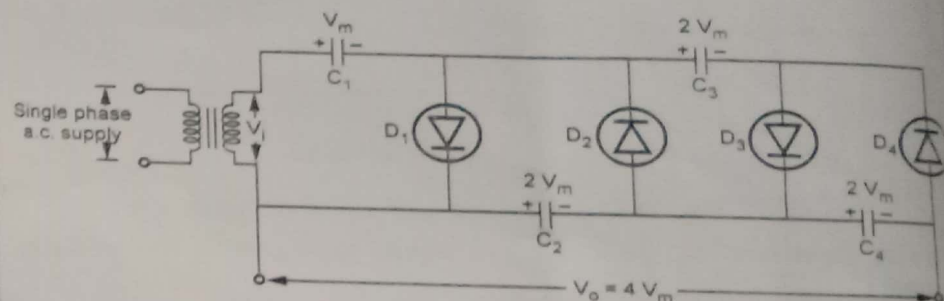

Fig. Q.53.5 Voltage quadrupler
Voltage quadrupler circuit : The Fig. Q.53.5 shows a voltage quadrupler circuit.
- Thus the capacitor C_4 charges to $2V_m$, with the polarity shown in the Fig. Q.53.5 in a negative half cycle, through D_4 .